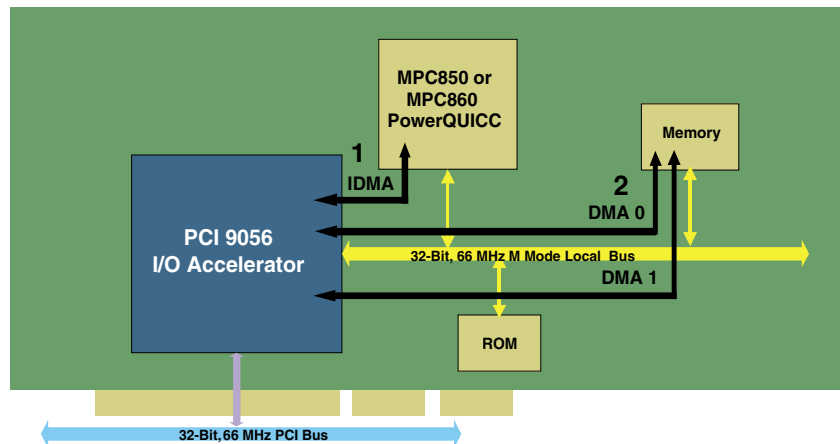

Figure 1-3. High-Performance MPC850 or MPC860 PowerQUICC Adapter Design
In addition, the PCI 9056 makes use of the advanced Data Pipe Architecture technology, allowing unlimited burst capability, as shown in Figure 1-3.
Regarding items 1 and 2 in Figure 1-3:
1. For PowerQUICC IDMA operation, the PCI 9056 transfers data to the PCI Bus under the control of the IDMA handshake protocol using Direct Master transfers (1).
2. Simultaneously, the PCI 9056 DMA can be operated bi-directionally, with the PCI 9056 as the Master for both buses, to manage transfers of data between the PCI and Local Buses (2).